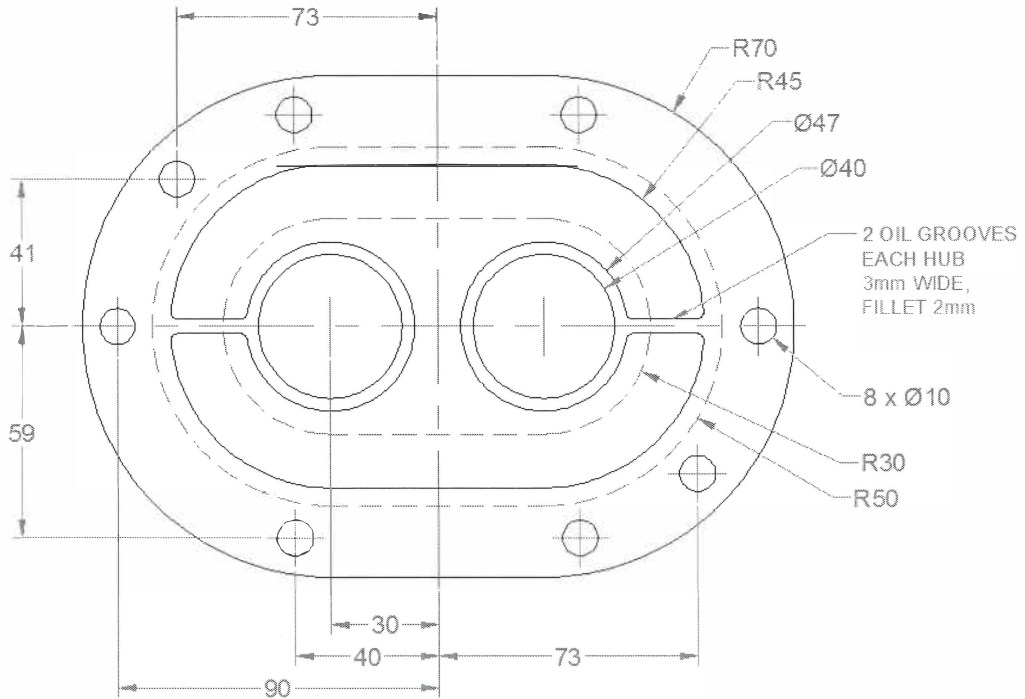

Figure 3–7
In this project, you will draw one view of a mechanical part, as shown in Figure 3–7.
2. Draw the objects shown in Figure 3–7 with the help of tools such as Dynamic Input, Direct Distance Entry, Polar Array, and Object Snap Tracking. Draw only the objects, not the dimensions. Note that all of the dimensions are mirror images unless otherwise indicated.